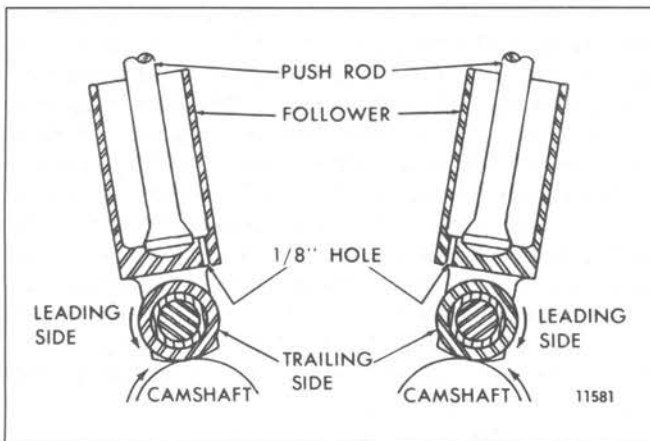

Fig. 9 – Installation of Cam Followers
1. Note the oil hole in the bottom of the cam follower. With the oil hole directed away from the exhaust valves (Fig. 9), slide the cam follower in position in the cylinder head.
3. Note the oil hole in the bottom of the cam follower. With the oil hole directed away from the exhaust valves (Fig. 9), slide the cam follower in position from the bottom of the head.